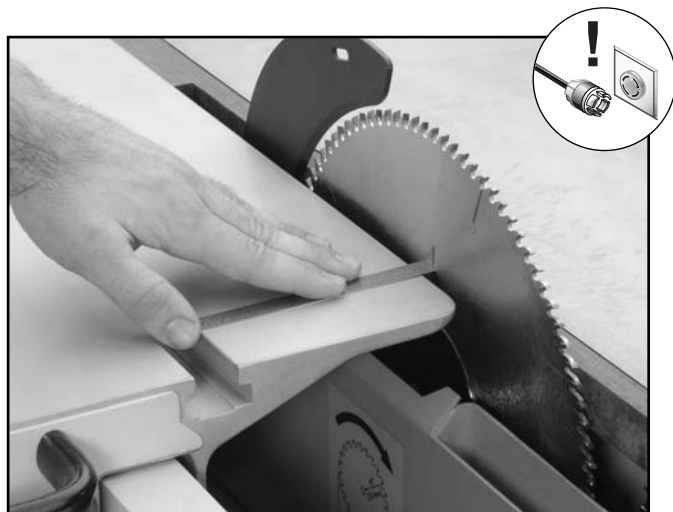

Figure 54. Measuring gap between sliding table edge and center of blade with a precision ruler.
5. Move the sliding table all the way to one end, and using a precision ruler, measure the gap between the edge of the table and your mark on the blade as shown in **Figure 54**.